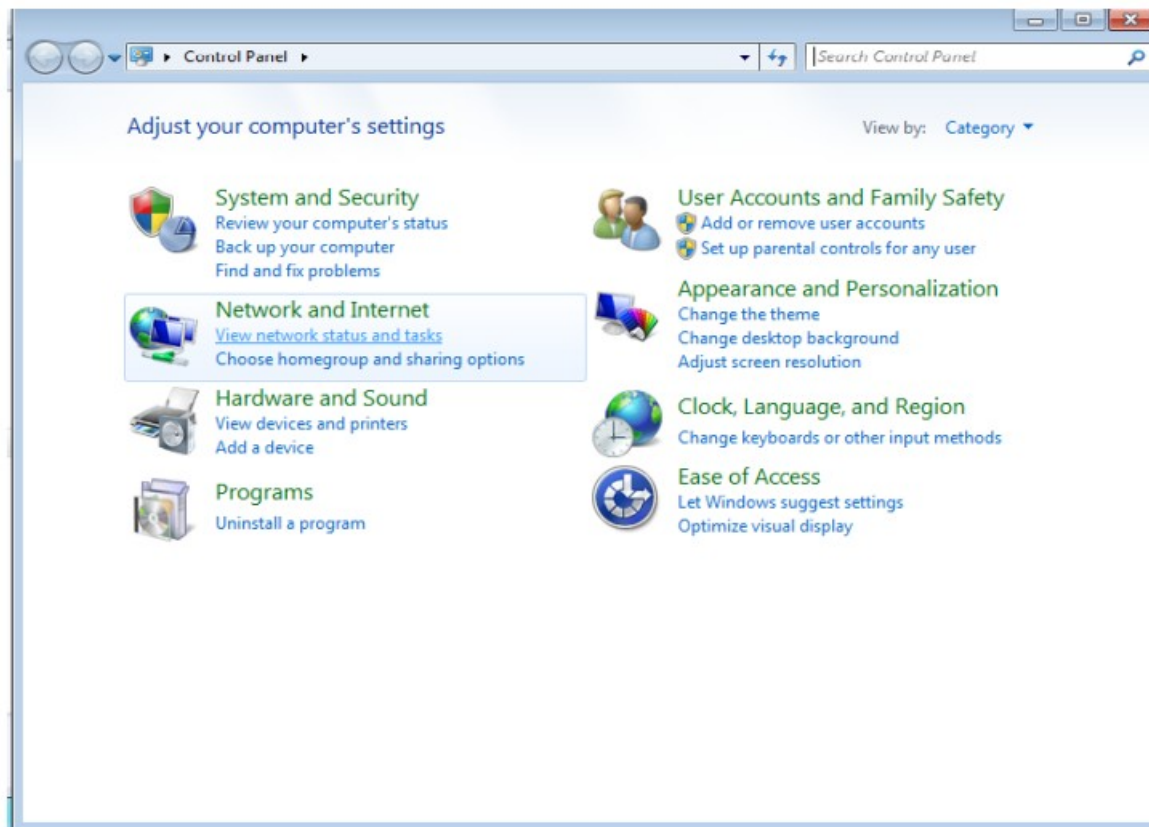

Fig.1.14 Control Panel
- (1) Click the “start” to open control panel
- (2) Click “View network status and tasks” (see Fig.1.14)